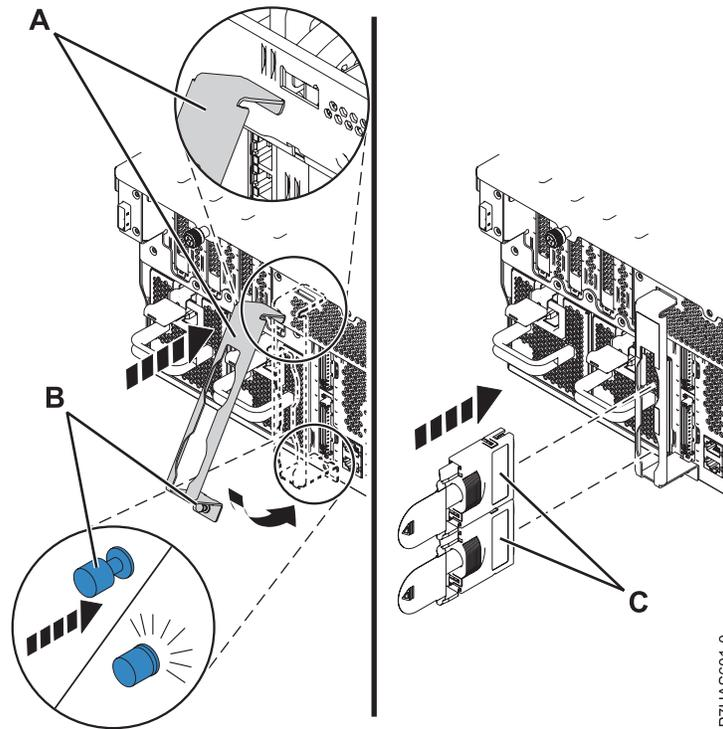

Figure 7. Installing the cable retention bracket
7. If the cable retention bracket (A), shown in Figure 7 is provided, perform the following steps:
- a. Tilt the cable retention bracket (A), shown in Figure 7, to hook the tab at the bottom of the bracket into the slot in the assembly.
- b. Swing the cable retention bracket toward the chassis and push the bracket fastener (B) into the chassis opening to secure the bracket.
8. From the rear of the system, attach the adapter cables (C).